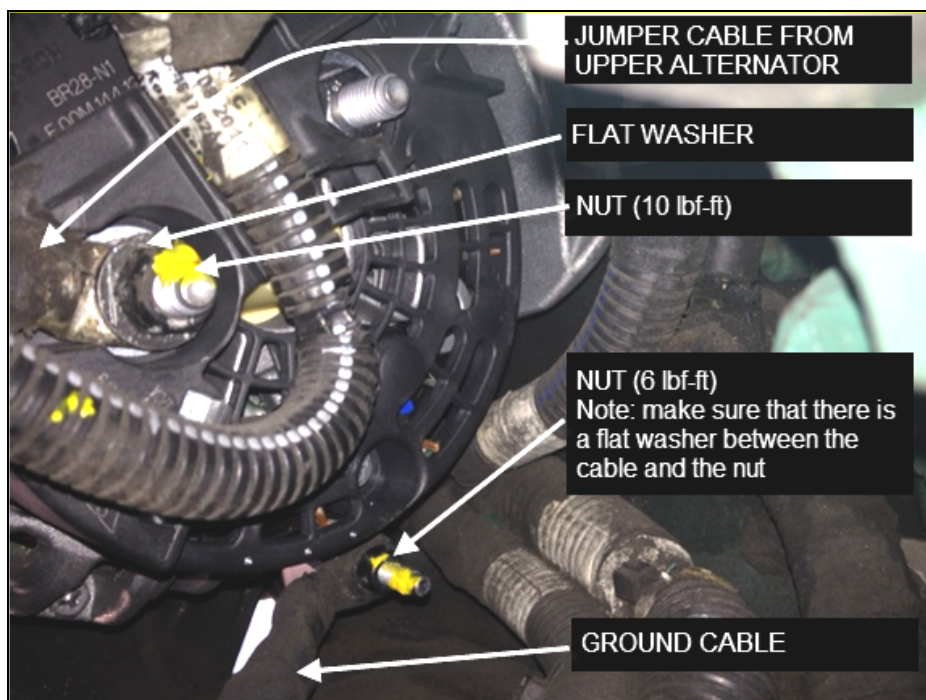

FIGURE 30
- a) Fit jumper cable (positive cable) onto **B1+** stud terminal on lower alternator (**FIGURE 30**).
- b) Place one new flat washer #5001341 against the cable ring terminal and screw new nut #5001787 (nut torque: 10 lbf-ft) (**FIGURE 30**).
- c) Fit the ground cable onto the alternator ground stud, place one new flat washer #502573 against the ground cable ring terminal and screw a new nut #5001182 (nut torque: 6 lbf-ft) (**FIGURE 30**).